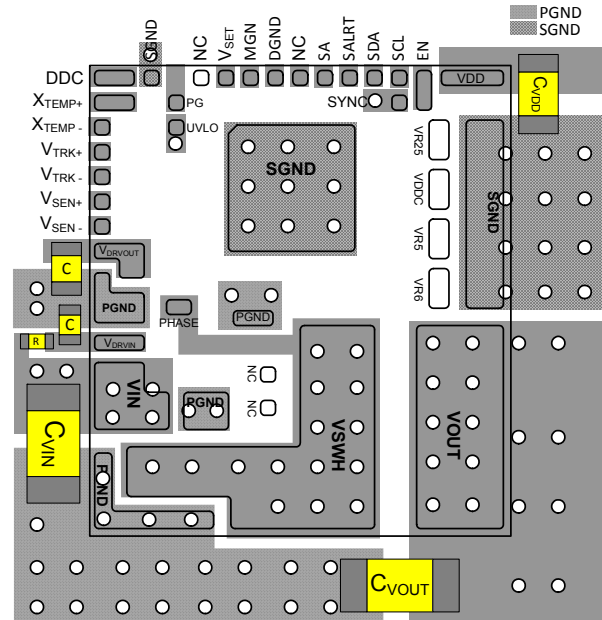

FIGURE 29. RECOMMENDED LAYOUT - TOP PCB LAYER
- For $VDD > 6V$ recommended PCB layout is shown in Figure 29. Leave V25, VDDC, VR5 and VR6 as no connect.